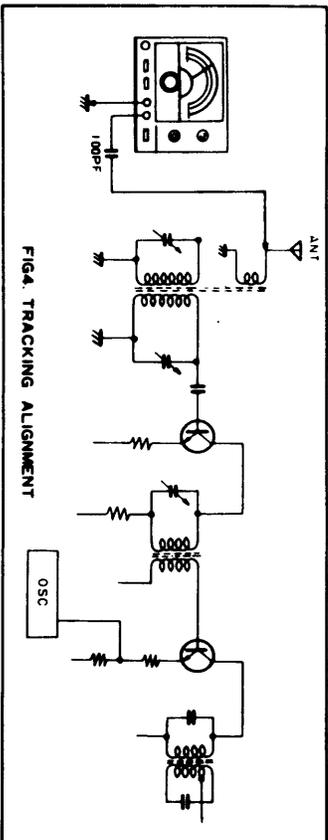

FIG. 4. TRACKING ALIGNMENT
- 2. Tracking.** A test circuit for tracking is shown in Fig. 4. Tune the 2050 to the receiver frequency to be tested, and feed its output to the antenna circuit.